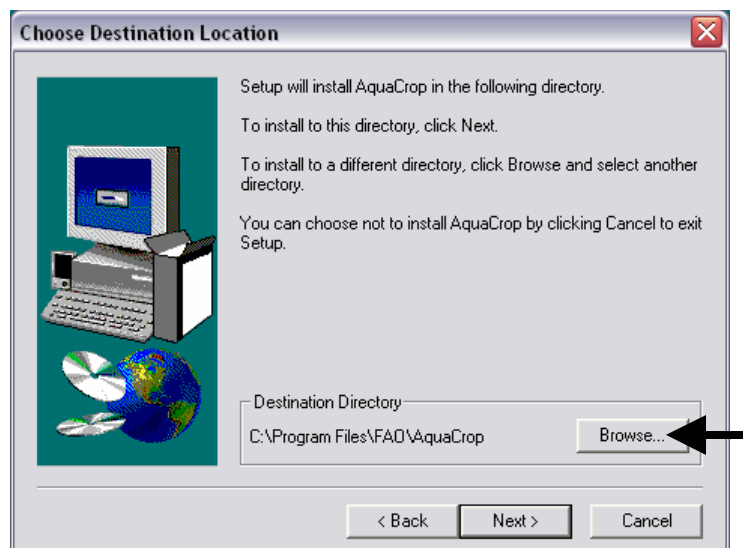

Figure 2.
1. Select 'Browse...' in the 'Choose Destination Location' window (Fig. 2);